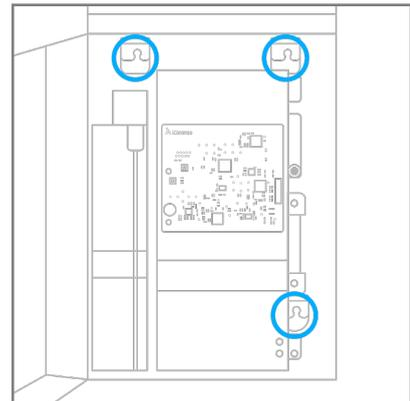

Figure 15.
Step 5: Install the lower right screw and tighten the two upper screws (Figure 15.).